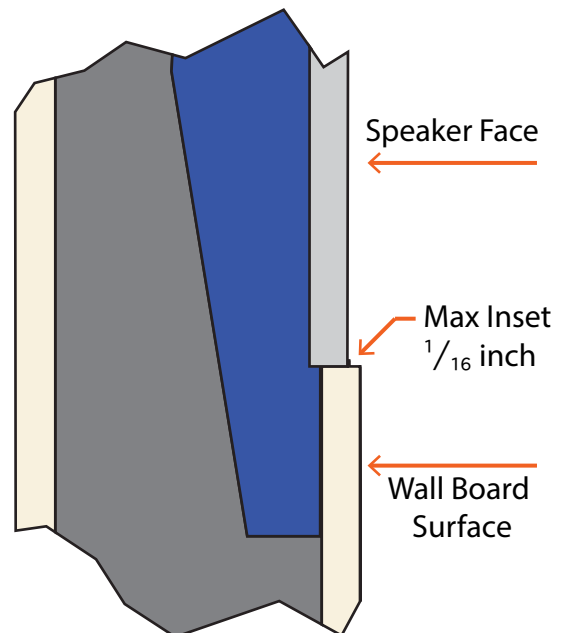

Figure 12.
- Ensure the speaker is not recessed into the wall too deeply as sound performance will be affected. The maximum depth between the speaker face and the front of the drywall is 1.5 mm or $\frac{1}{16}$ inch. See Figure 12.